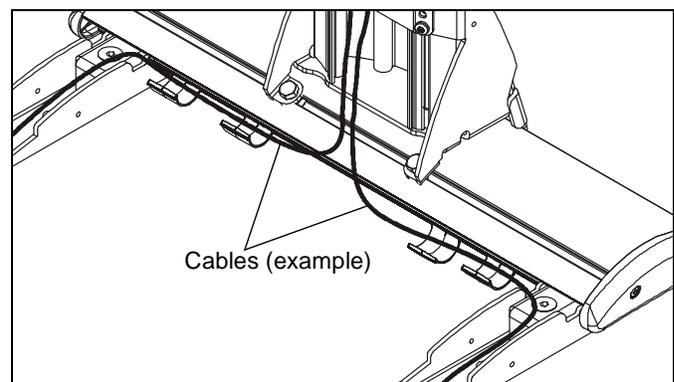

Figure 27
6. Thread cable up wall bracket channel and into opened cable clips. (See Figure 27) **Proceed to Step 8**